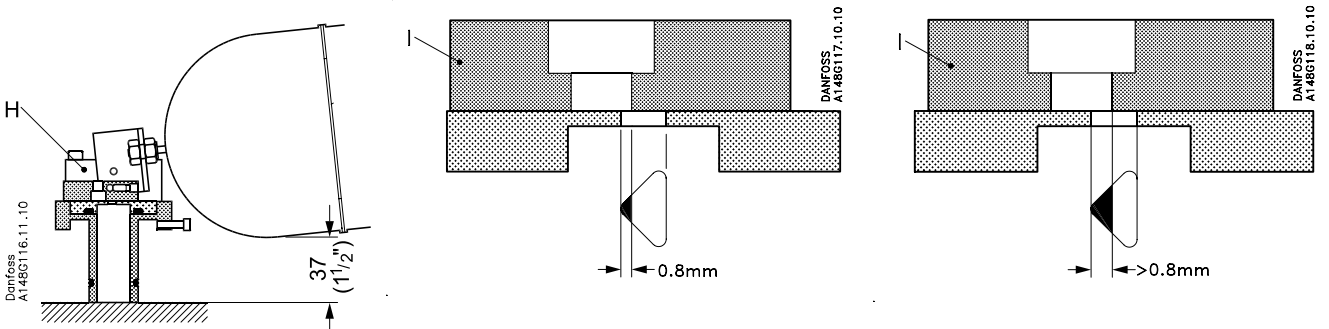

fig. 6
- 2) Position float as shown in fig. 6, 37 mm (1 ½") from the surface of the table. We recommend that you make a 37 mm (1 ½") high chock to place under the float.
- 3) Untighten the 4 screws pos. H (fig 6).
- 4) Place the slide pos. I (fig 6) so that the nozzle has an opening of 0.8 mm and at the same time so that the opening degree of the nozzle will increase immediately when the float is moved further upwards as illustrated in fig. 6. The 0.8 mm opening is easily set by using a calibrated wire/needle.
- 5) When the slide is placed correctly, tighten the 4 screws pos. H (fig. 6)